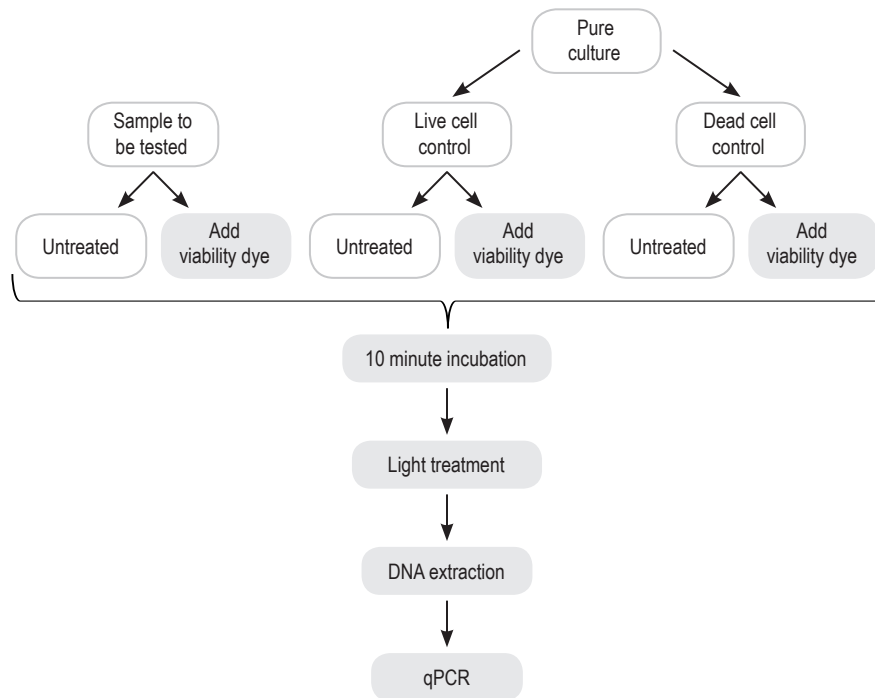

Figure 2. Viability PCR workflow overview, with recommended live and dead cell controls.
- In order to validate PMA effectiveness in your sample of interest, it is best to perform live-cell and dead-cell controls, each with and without PMA (Fig. 2). The change in Ct (dCt) caused by PMA for each control should be assessed (see "Data Analysis", p. 2).
See Fig. 2 for an overview of the procedure. This is a general protocol for treating cultured strains of bacteria with PMA. It is recommended that you first perform a control experiment with live and dead controls for your selected organism. Treatment of complex samples, such as feces or soil, may require optimization of sample dilution, dye concentration, and light treatment time. Treatment of dilute samples, such as water testing, may require filtration or concentration before PMA treatment.
3. Pipette 400  $\mu\text{L}$  aliquots of bacterial culture into clear microcentrifuge tubes. For each sample you will need one tube for PMA-treated cells and one tube for untreated (no dye added) in order to calculate dCt (see Fig. 2, "Considerations for viability PCR" #8, and "Data Analysis" for details).